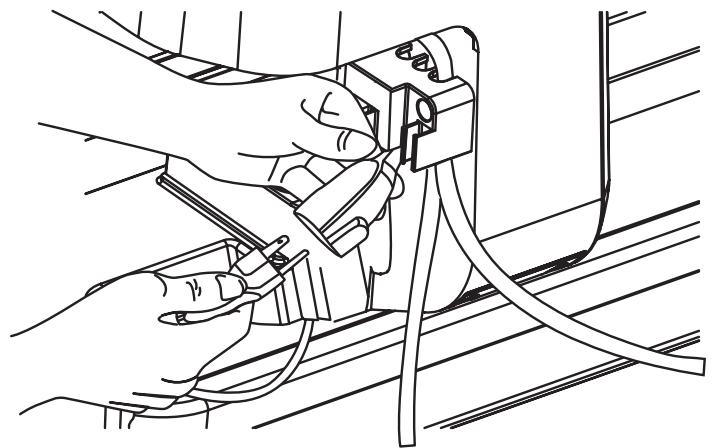

Fig. 13
3. Connect the water-pump power cord to the receptacle on the saw, as shown in Fig. 13.